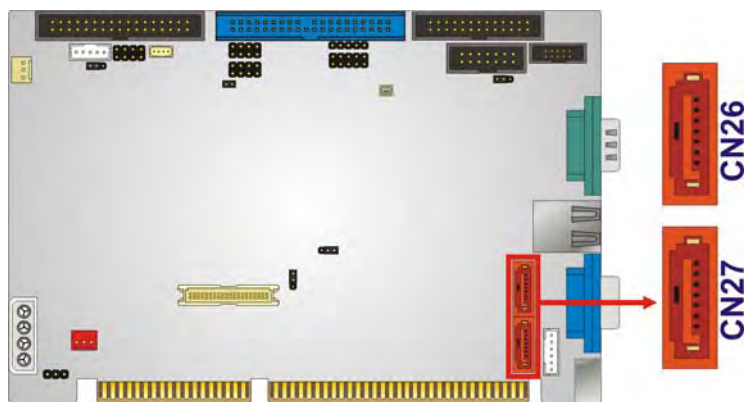

Figure 3-16: SATA Drive Connector Locations
**CN Location:** See Figure 3-16